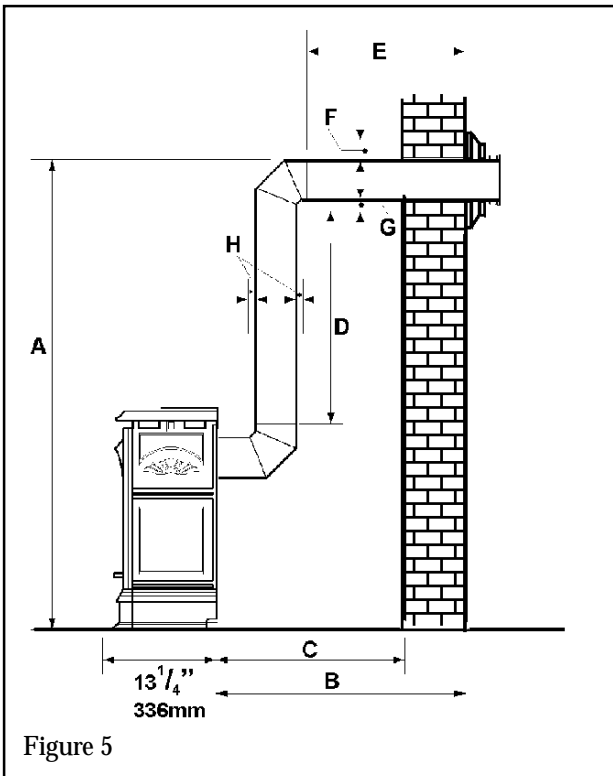

Figure 5
### 4.3.2. Rear flue pipe connection, vertical rise (Fig. 5)
The location requirements are (See figure 5):-
**4.3.4. Corner location, rear flue pipe connection, vertical rise, horizontal termination (Figs 5 & 7)**